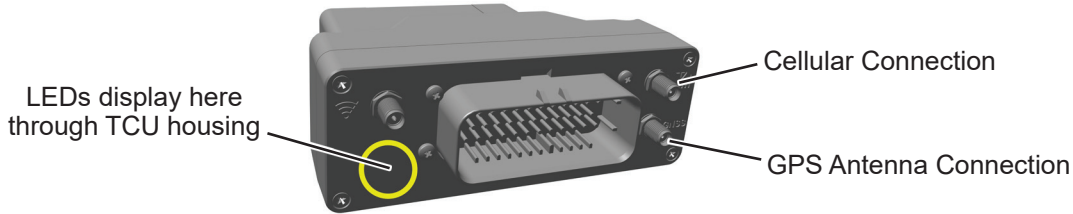

Figure 13
- a. Check for a solid red LED and flashing green LED on front of TCU. See Figure 13. No lit LEDs on front of TCU indicates no power to TCU.